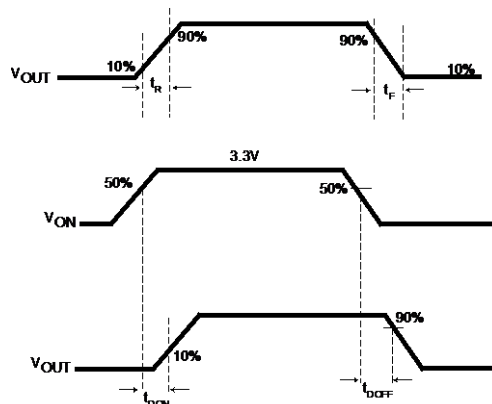

Figure 24. Timing Diagram
- $t_{DON}/t_{DOFF}/t_R/t_F$ are defined in Figure 24.